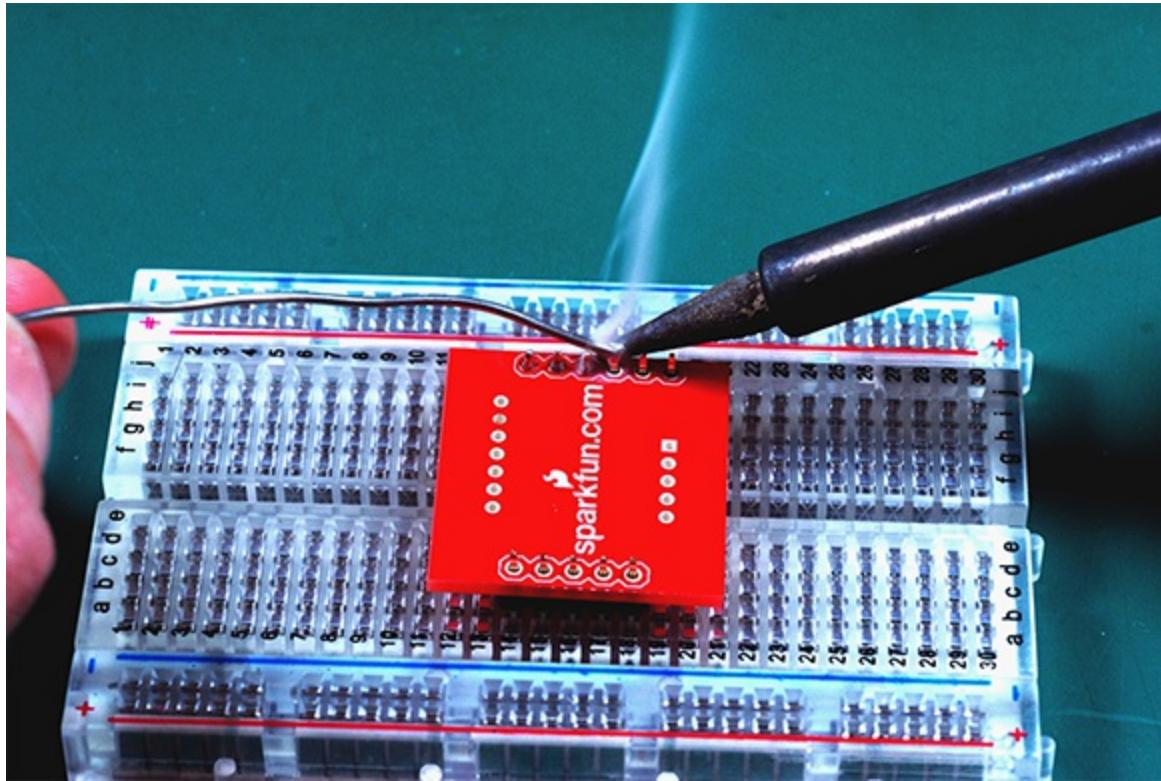

Figure 9-5: Soldering your pins on the breakout board with the SparkFun logo facing up!
- 4. Carefully solder the two rows of pins in place, as shown in Figure 9-5.**